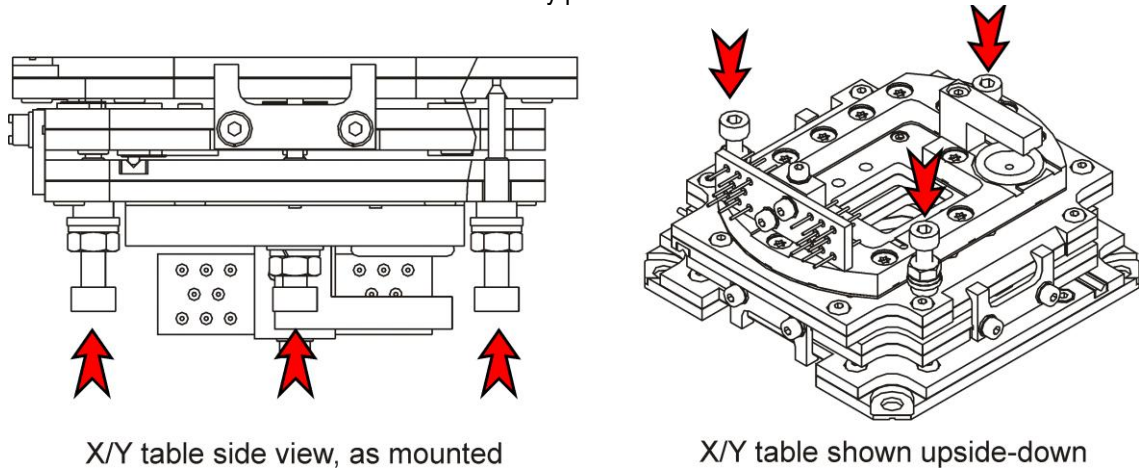
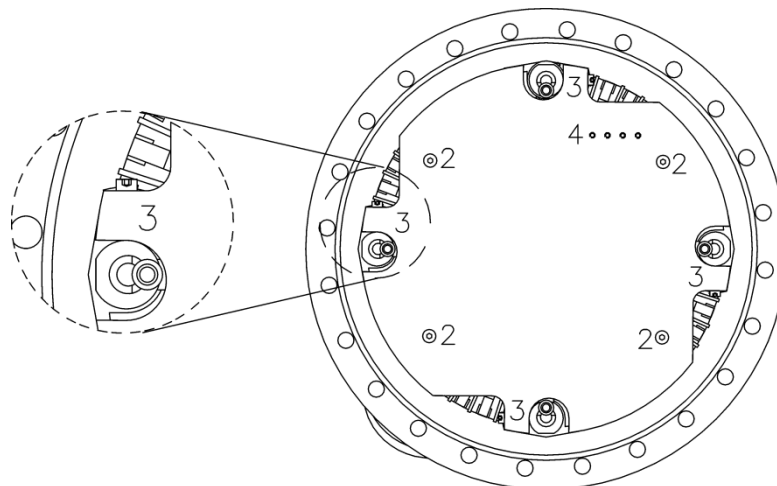

Figure 5. X/Y-table transport locks (3 screws and nuts).
Figure 6. VT STM XA transport lock for the STM stage.
Upon delivery the X/Y coarse motion drive is fixed with three screws at the bottom, see figure 5 on page 21. The whole STM stage is additionally protected with a head plate, see figure 6 on page 21.
- The three transport lock screws of the X/Y-table can be seen in figure 5 on page 21.
- For cooling versions only: remove the three M3 screws and spring washers which hold the security tube and lift the tube out, see figure 6 (1).
- For all versions: remove the four M4 screws and spring washers, see figure 6 (2).
- Now remove the four M3 screws and spring washers which hold the head plate to the spring suspension tubes, see figure 6 (3).
- Park these screws in the parking screw holes, see figure 6 (4), and carefully lift the head plate off.
- Fit the four top screws (M4) and spring washers, see figure 6 (2), and tighten finger tight.
- Remove the screws and spring washers from the parking screw holes, see figure 6 (4), and use them to lock the head plate to the spring suspension tubes, see figure 6 (3).
- Fully tighten the four top screws, see figure 6 (2).